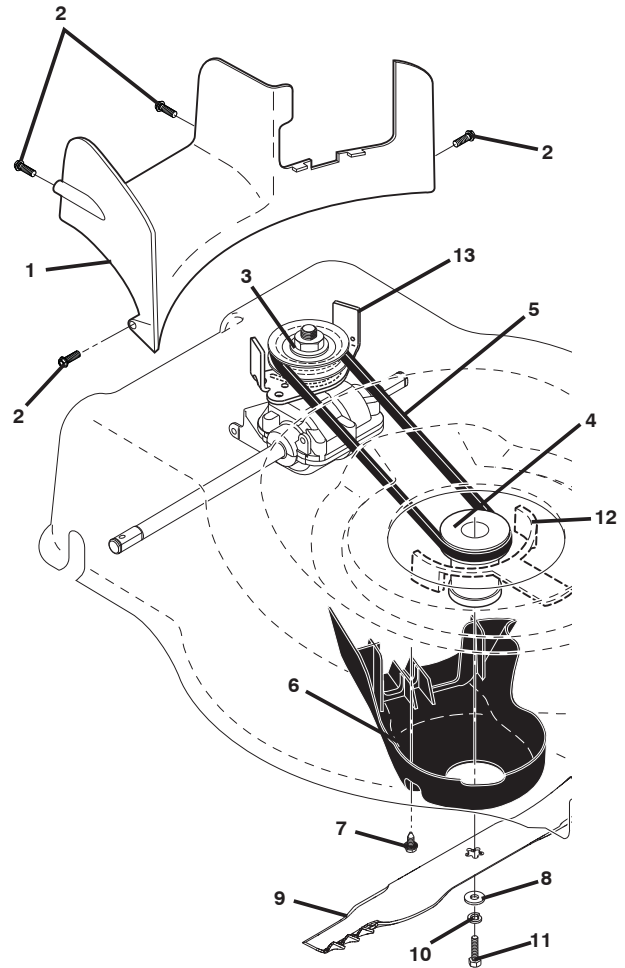

Figure 26
1. Remove screws securing rear baffle (Figure 26).
1. Place new drive belt on gearcase pulley (Figure 26).